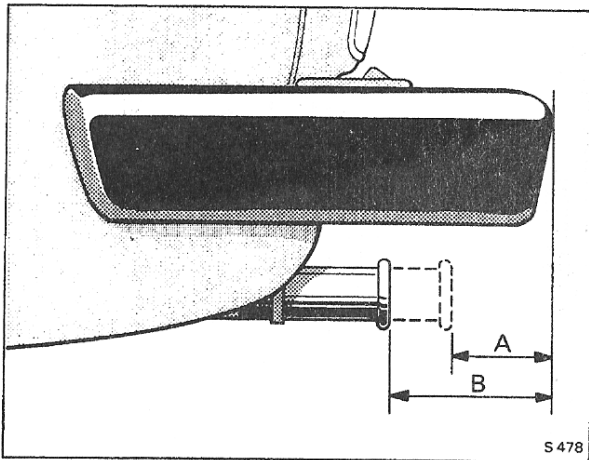

Fig. Q5 Tailpipes – nominal setting
7. Figure Q5 gives the nominal distance from the end of the tail pipes to the outer edge of the rear bumper rubber.